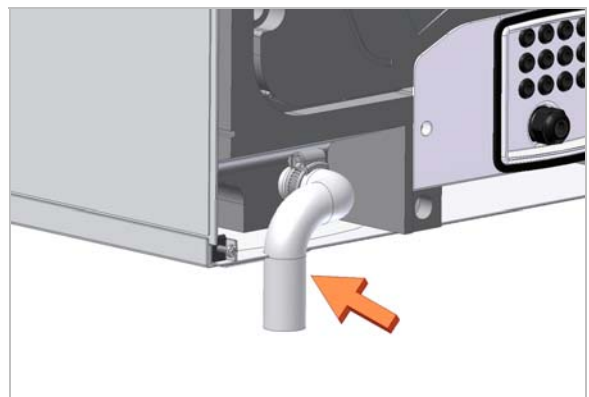

Figure 13: Fit Condensate Pipe (Rear of Unit)
3. Fit the vertical condensate pipe and secure with a worm-drive clip (see Figure 13).